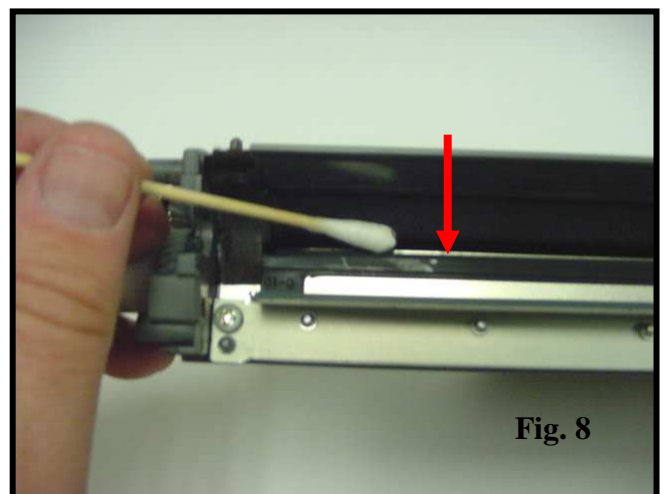

Fig. 8
8. Clean the doctor blade with compressed air. Using a cotton swab with 99% IPA, clean the leading edge of the doctor blade (Fig. 8). Ensure that there are no fibers on the blade after cleaning.